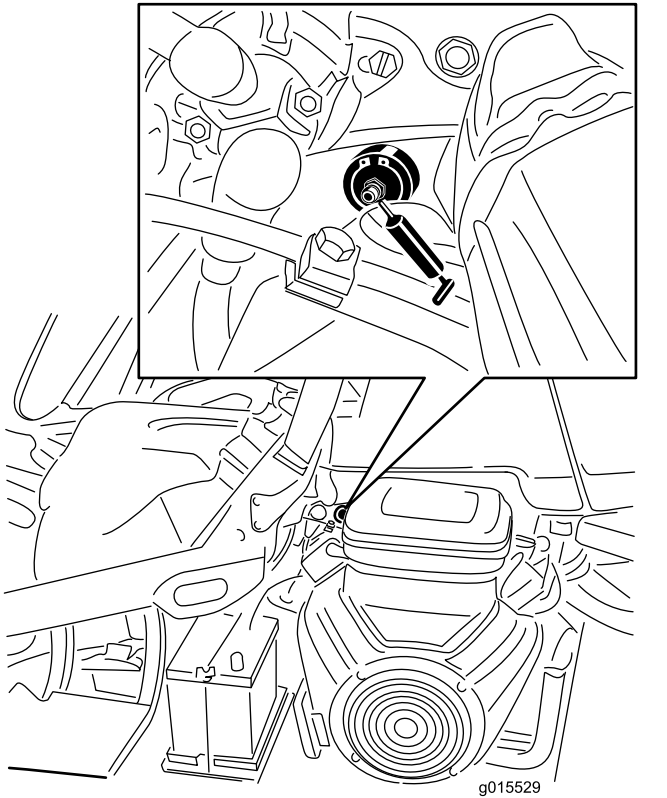

Figure 38
1. Wipe the grease fitting clean so that you do not force foreign matter into the bearing or bushing (Figure 38).